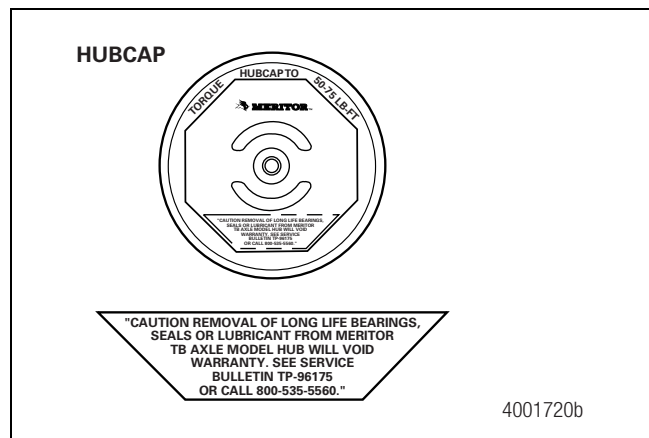

Figure 3.5
- Warranty and service information is marked on the hubcap. Figure 3.5.